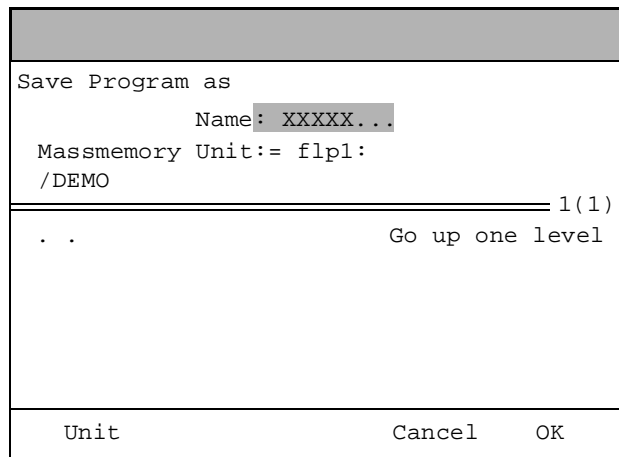

Figure 67 The Save Program as window.
6. Now give the program a new name. When you have entered this, press **OK**. The window in Figure 67 appears.